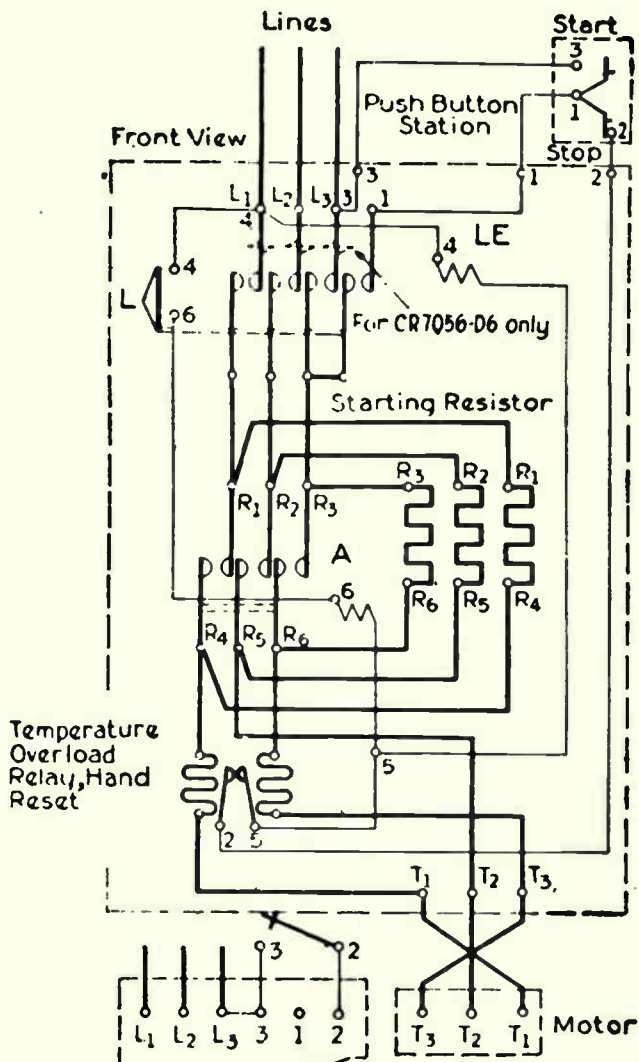

Fig. 16-31
**Fig. 16-31.** Magnetic starter, push-button operated. Resistors are in series with each phase when starting contactors (upper set) are closed, and are short-circuited when running contactors (lower set) are closed. A definite-time relay of the pendulum type is fastened to the line contactor and starts as soon as this contactor closes, closing the short-circuiting contactors after a definite time interval. (General Electric diagram).